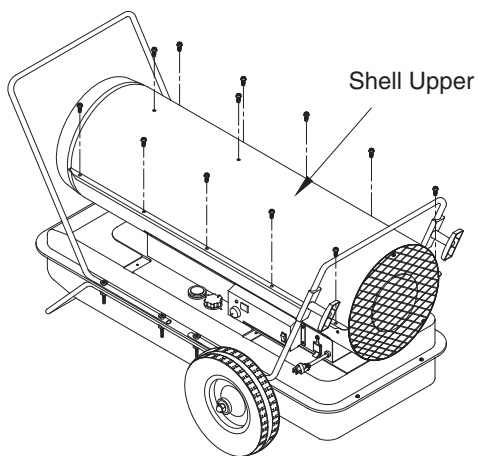

Figure 7. Upper Shell Removal
(See Figure 7)
- Remove upper shell (See figure 7 above)